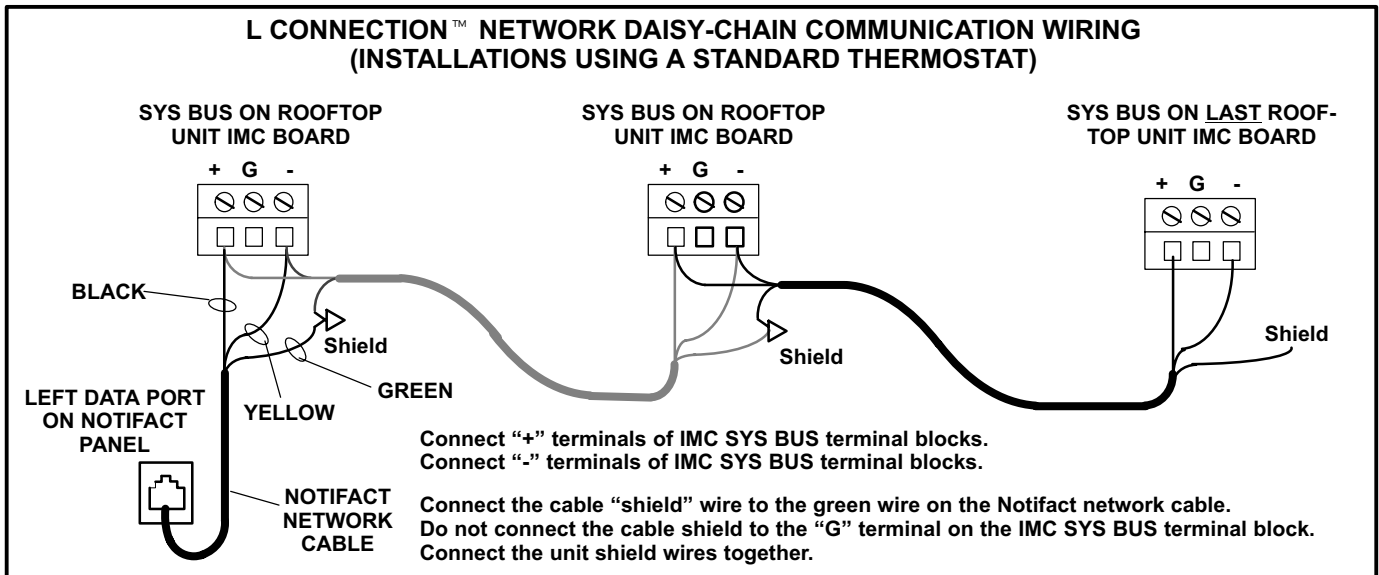
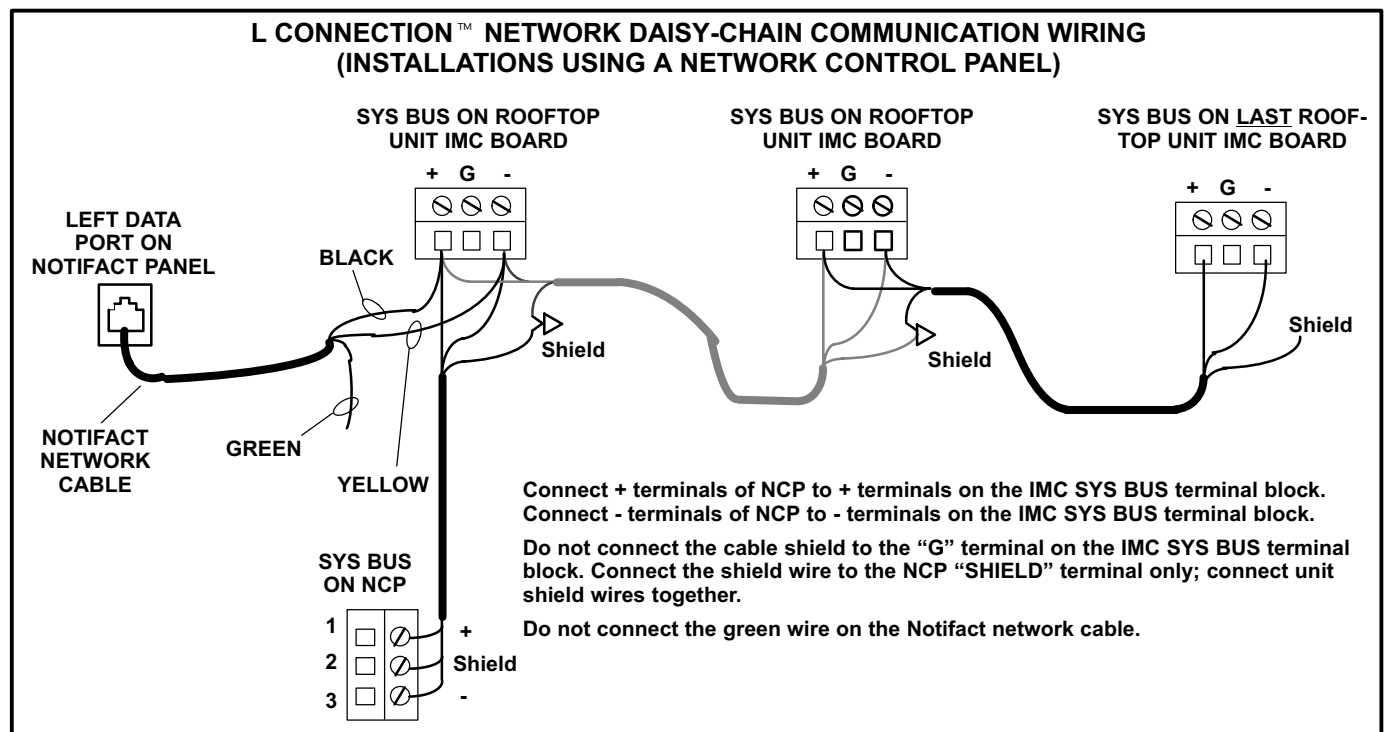

FIGURE 2
FIGURE 3
- 6- Route communication wiring between rooftop units and Notifact. Daisy chain the communication wires as shown in figure 2 for installations using a standard thermostat. See figure 3 for installations using a Network Control Panel. Set unit DIP switch addresses in the same order as the daisy-chained connections. See "Address Unit DIP Switches" section.